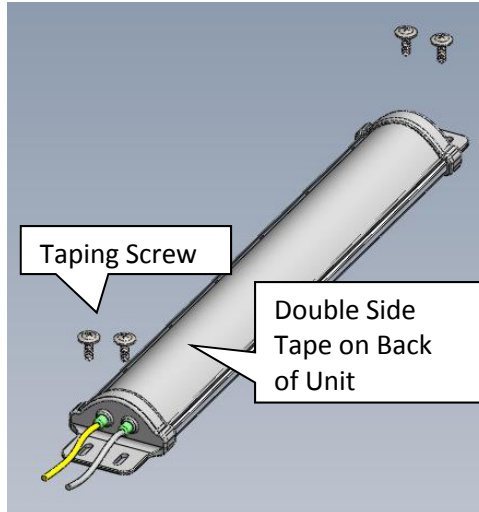
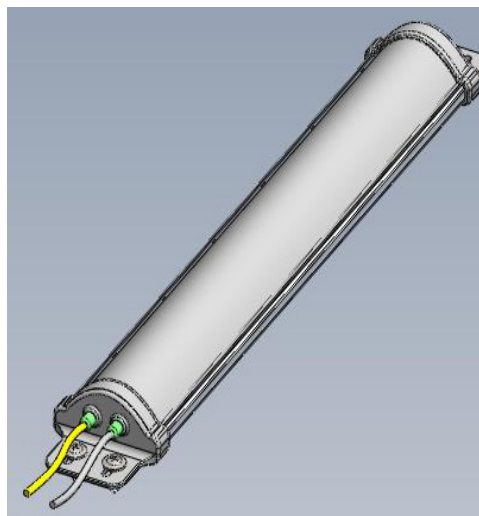

Figure 1
Figure 2
2. Use the taping screws to firmly attach the cooler light to the mullion (shown in Figure 1). The final assembly of fixer and cooler light is shown in Figure 2.
Use the double-sided tape on the back of the cooler light to temporarily put the unit on the mullion at desired position to facilitate further installation steps. Use the taping screws to firmly attach the cooler light to the mullion (shown in Figure 1).
Final assembly is shown in Figure 2.